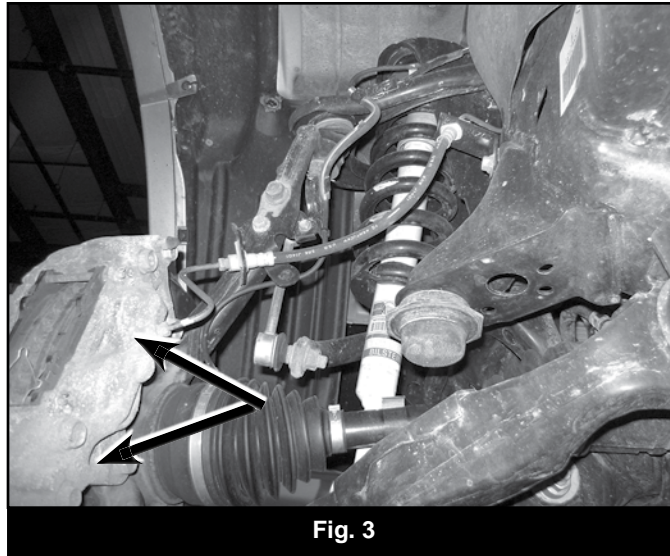

Fig. 3
6. Disconnect the brake line bracket from the steering knuckle and disconnect ABS wire from the bracket. Disconnect the brake calipers from the knuckle. Hang the caliper out of the way. Do not allow the caliper to hang from the brake line. Keep all hardware. (Fig 3)